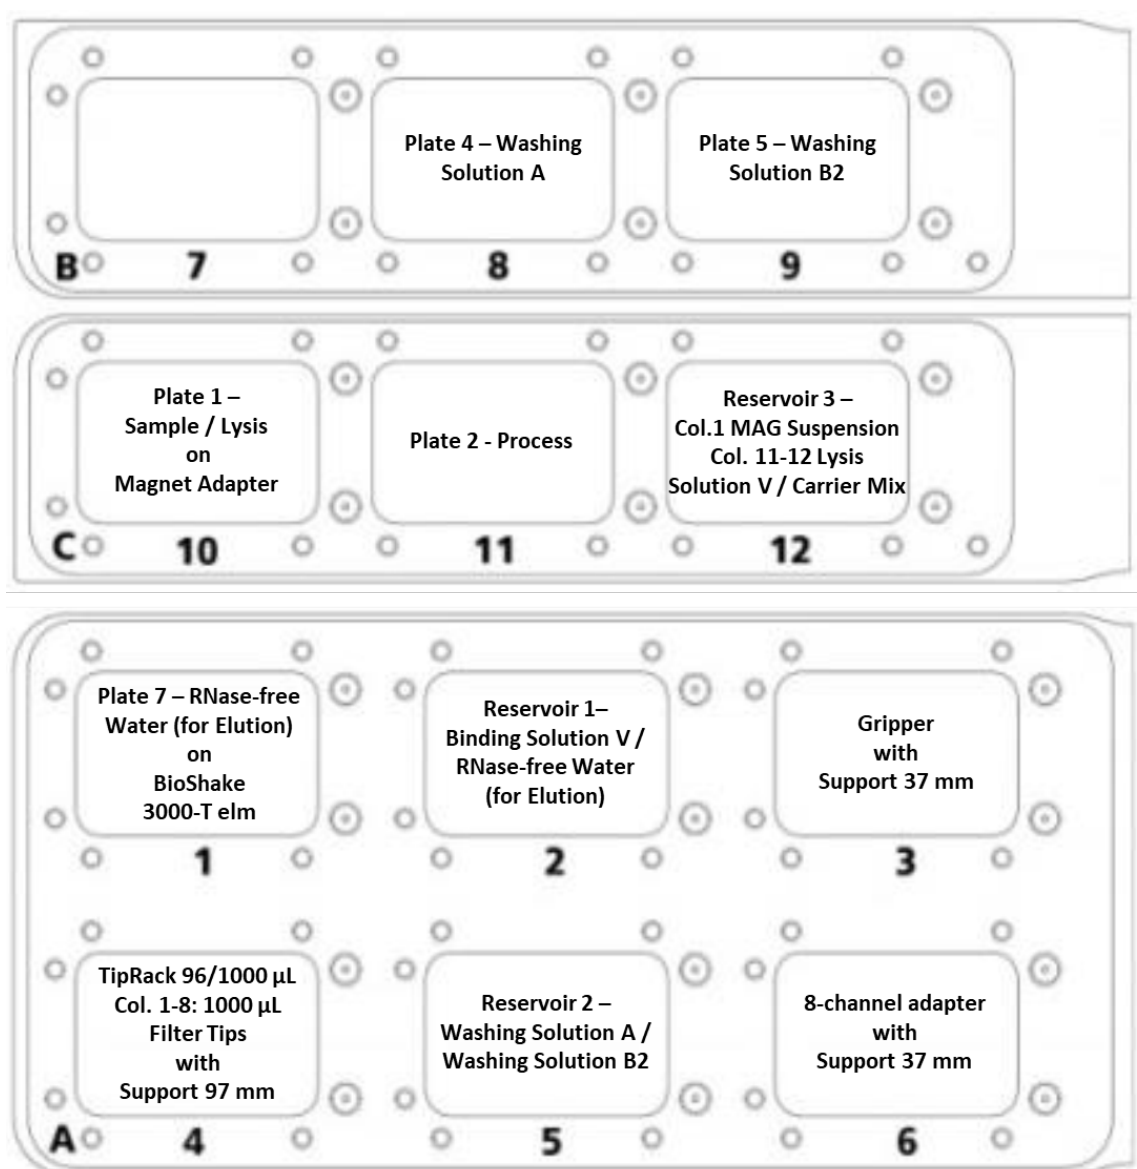

Figure 3: Deck layout for starting the prefilling protocol for 200 μ L sample volume.
4. Transfer the content of one bottle (70 mL) "**RNase-free Water (for Elution)**" into the **right** side of the 2 column reservoir labeled "Reservoir 1 - Binding Solution V / RNase-free Water (for Elution)". Place the filled reservoir into the CyBio FeliX on position 2 (\rightarrow see Figure 3).
6. Transfer the content of one bottle (120 mL) "**Washing Solution B2**" into the **right** side of the 2 column reservoir labeled "Reservoir 2 – Washing Solution A / Washing Solution B2. Place the filled reservoir into the CyBio FeliX on position 5 (\rightarrow see Figure 3).
8. Transfer 15 mL of the prepared **Lysis Solution V / Carrier Mix** (\rightarrow "Preparation of Lysis Solution V / Carrier Mix", p. 25 and p. 42) in column 11 and 15 mL in column 12 of the reservoir labeled "Reservoir 3 – MAG Suspension / Lysis Solution V / Carrier Mix". Place the filled reservoir into the CyBio FeliX on position 12 (\rightarrow see Figure 3).
10. Place the CyBio Tip Rack 96/1000 μ L into the CyBio FeliX on position 4 (\rightarrow see Figure 3).
11. Place the 8-channel adapter (Head R 96) with the support 37 mm into the CyBio FeliX on position 6 (\rightarrow see Figure 3).
12. Place the empty, labeled plates on the CyBio FeliX deck according to the deck layout for the prefilling protocol for 200 μ L sample volume (\rightarrow see Figure 3).